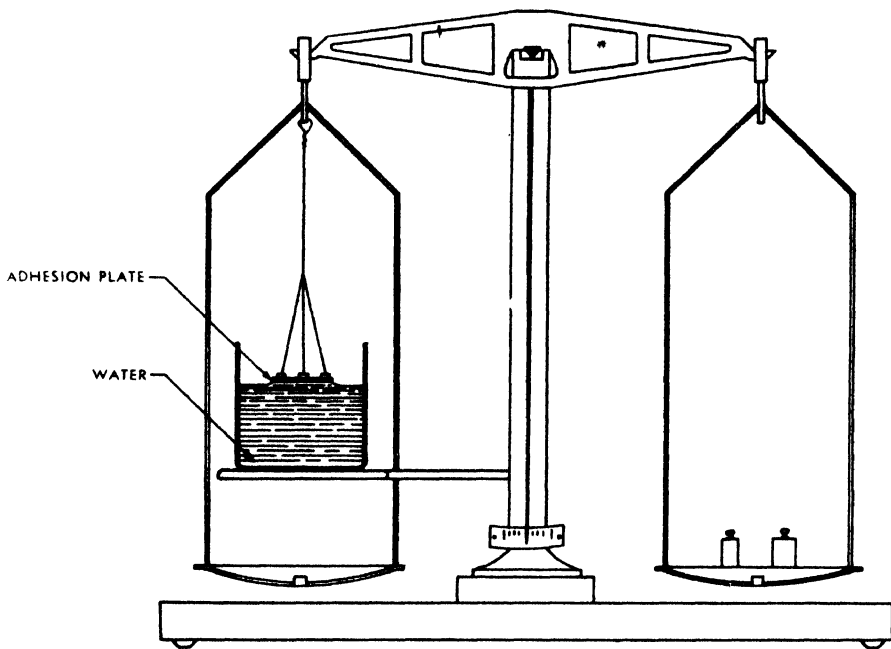

FIG. 154. MEASURING THE FORCE OF ADHESION.
A. A simple demonstration will illustrate the forces of cohesion and adhesion. To the left-hand side of a beam balance, suspend a smooth glass disk. See Fig. 154. Counter balance the weight of the disk by adding